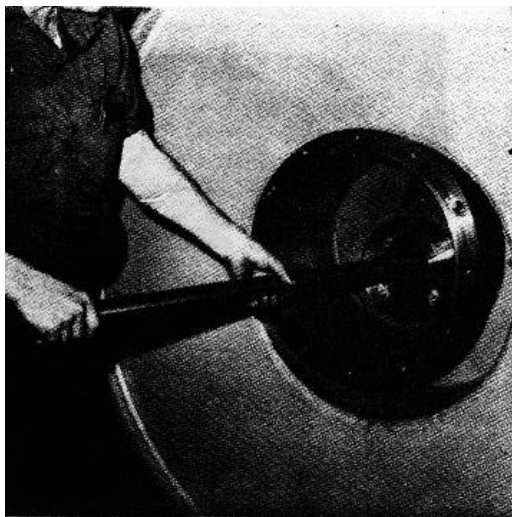

FIGURE 7-70.
a. Complete the hydrostatic motor removal procedure presented in paragraph 7-179 (Sundstrand). Remove the drive shaft from the center of the drum (see figure 7-70).